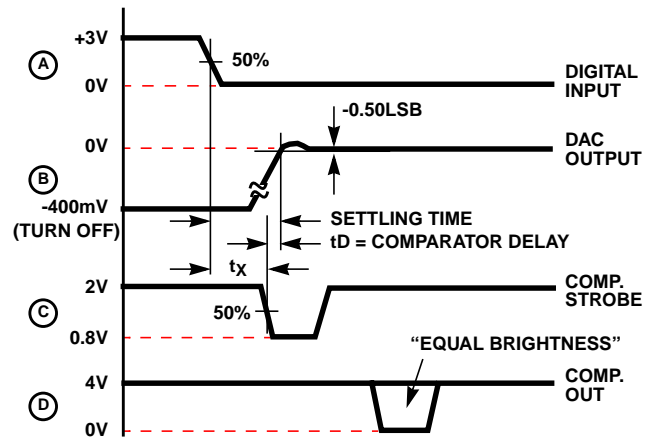

FIGURE 3B.
As shown in Figure 3B, settling time equals t_X plus the comparator delay ($t_D = 15ns$). To measure t_X :
- Adjust the VLSB supply for 50% triggering at COMPARATOR OUT. This is indicated by traces of equal brightness on the oscilloscope display as shown in Figure 3B. Note DVM reading
- Switch to LSB to Pulse (P)
- Measure t_X from scope as shown in Figure 3B. Settling time equals $t_X + t_D$, i.e., $t_X + 15ns$